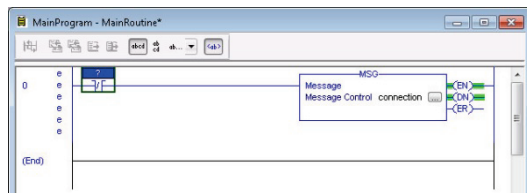

Figure 62: MainRoutine
- e) Click “OK” to close the MSG Configuration dialog. At this stage, MainRoutine should look like Figure 62.